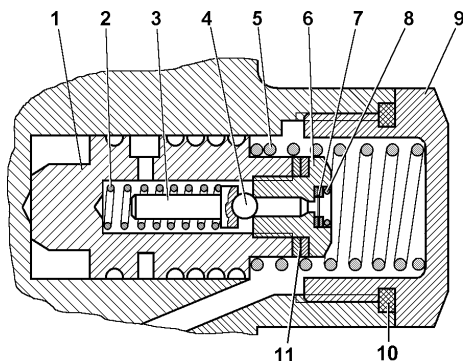

Fig. 66. By-pass and Relief Valves of Pump:
1. Screw out the stopper plug 9 (Fig. 66) over the inlet hole of the pump.